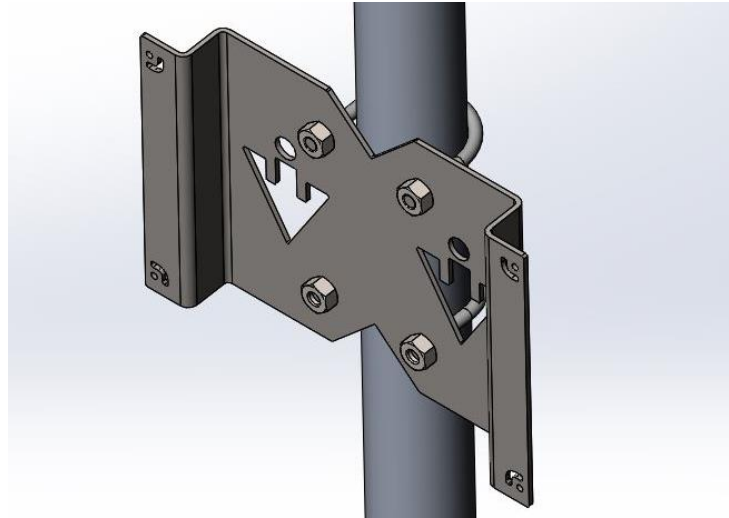

Figure 2-18. Mounting Bracket with Both U-Bolts and Nuts
6. Thread the two nuts that were removed from the U-Bolt in Step 2 back on. Tighten the nuts down fully. The assembly should now resemble that of Figure 2-18.